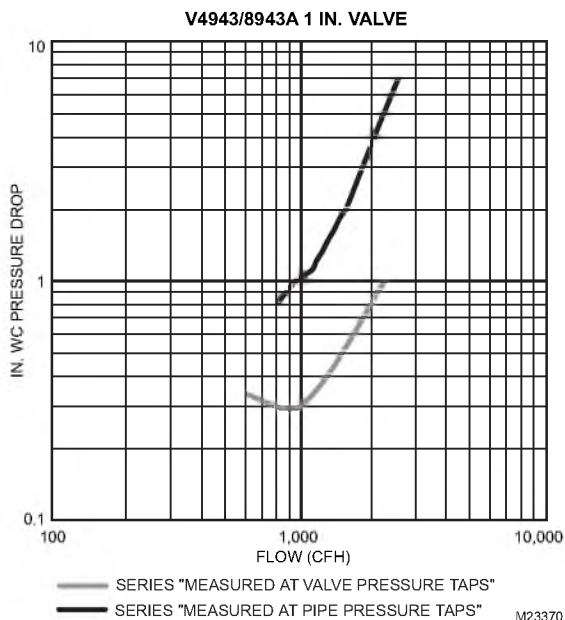

Fig. 2. Capacity vs. pressure drop curves for 1 in. valve.
5. Use the corrected capacity in cfh when determining the gas valve size in Fig. 2–5.
6. Determine the maximum pressure drop across the valve and draw a vertical line at this pressure on Fig. 2, 3, 4, or 5.